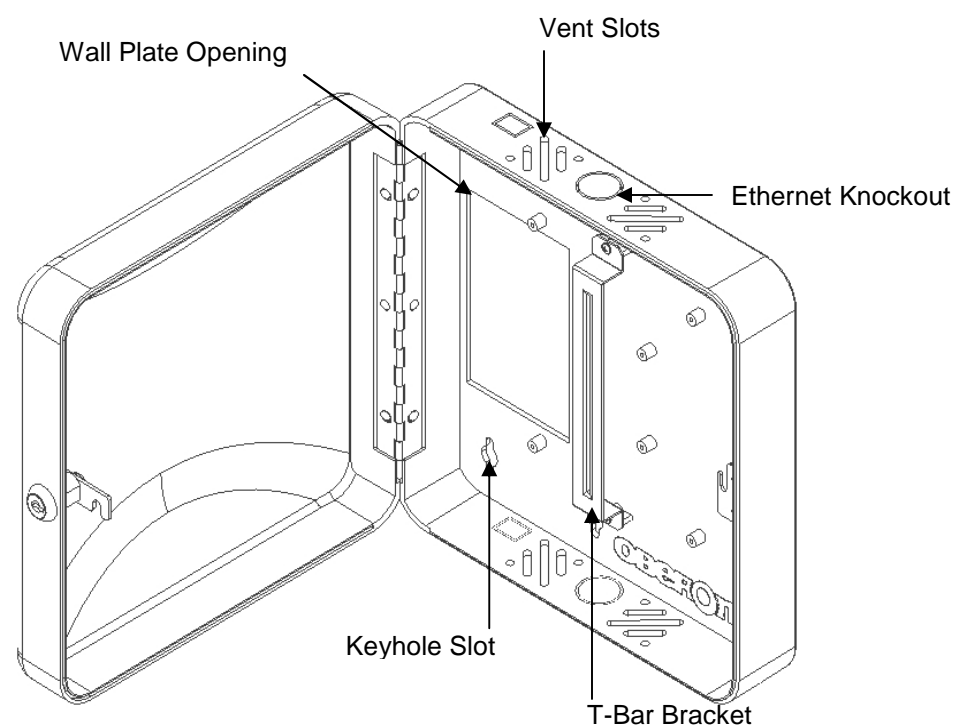
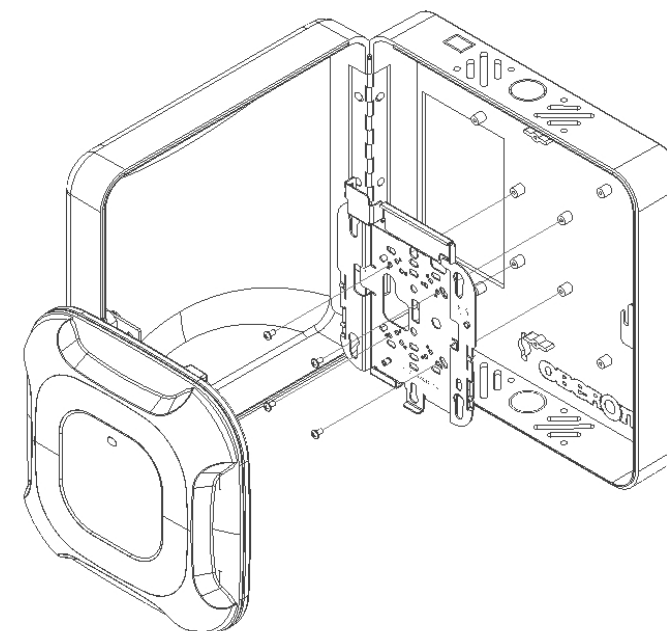

Figure 1 - 1015-00 Features
Figure 2 – Model 1015-00 Access Point Installation
Step 1 – Open the enclosure door and mount the access point's mounting plate to the enclosure's "T-Bar" mounting bracket using the access points instructions for mounting to a ceiling T-Bar if required. (Ref. Figure 1 and Figure 2).